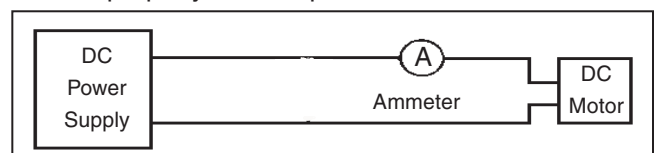

Figure 7.15—Ammeter Connection
- If the shaft turns freely, connect an ammeter to one of the power leads as shown on Figure 7.15. With the power connected and the motor turning freely the ammeter should read less than 20% of the full-load current (from the nameplate). If it does, the motor is functioning properly and the problem is elsewhere.
11. Once the shaft is spinning freely, perform a "no-load" test. Connect an ammeter as shown on Figure 7.15. With the power connected and the motor running the ammeter should read less than 20% of the full-load current (from the nameplate). A higher reading indicates: